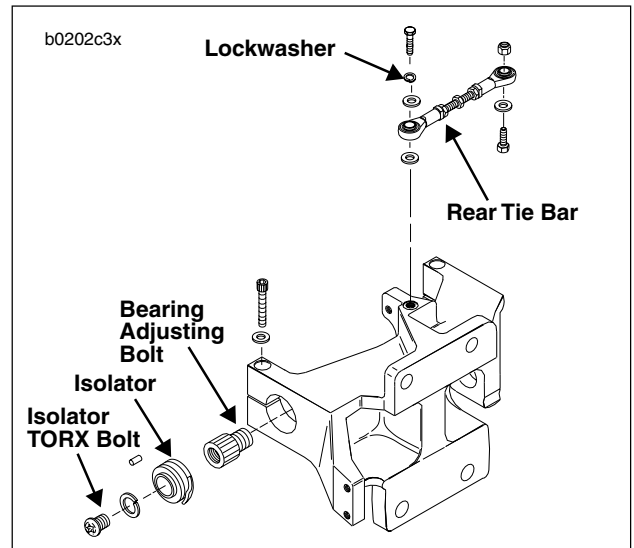

Figure 2-78. Mount Block
7. See Figure 2-78. Remove frame side tie bar mounting hardware from front lower and center tie bars. Leave fourth tie bar (front upper) attached to both frame and engine.
8. See Figure 2-78. Remove rear tie bar bolt, lockwasher and washers from mount block.
9. See Figure 2-78. Loosen left side isolator bolt from swing arm bearing adjusting bolt. Do not remove.
10. See Figure 2-78. Remove right side isolator bolt and washer from swingarm bearing adjustment bolt.
10. See Figure 2-78. Install isolator TORX bolts and washers through both rubber isolators into bearing adjustment bolts on each side.